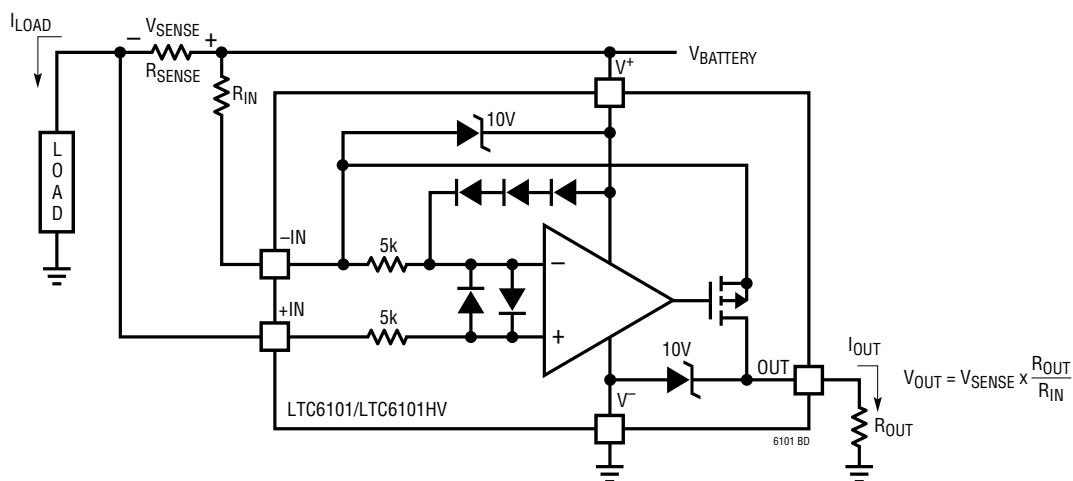

Figure 1. LTC6101/LTC6101HV Block Diagram and Typical Connection
**-IN:** The internal sense amplifier will drive IN- to the same potential as IN+. A resistor (RIN) tied from V+ to IN- sets the output current  $I_{OUT} = V_{SENSE} / R_{IN}$ . VSENSE is the voltage developed across the external RSENSE (Figure 1).
The LTC6101 high side current sense amplifier (Figure 1) provides accurate monitoring of current through a user-selected sense resistor. The sense voltage is amplified by a user-selected gain and level shifted from the positive power supply to a ground-referred output. The output signal is analog and may be used as is or processed with an output filter.